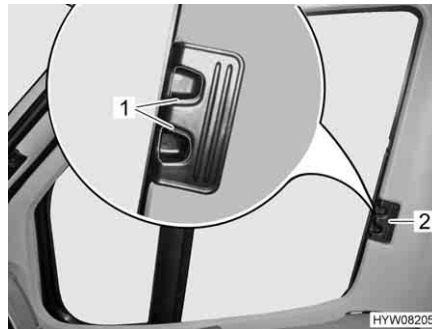

Fig. 92 Roman shade for driver's and passenger's window
- Press the release handles (Fig. 92,1) and hold them down.
- Using the handle (Fig. 92,2), draw the Roman shades for the driver's and passenger's window to the other side of the window and secure them to the magnetic strips.
- Use handle (Fig. 92,2) to push in the Roman shades for the driver's and passenger's window as far as possible.
- Let go of the release handles (Fig. 92,1) and let them engage.